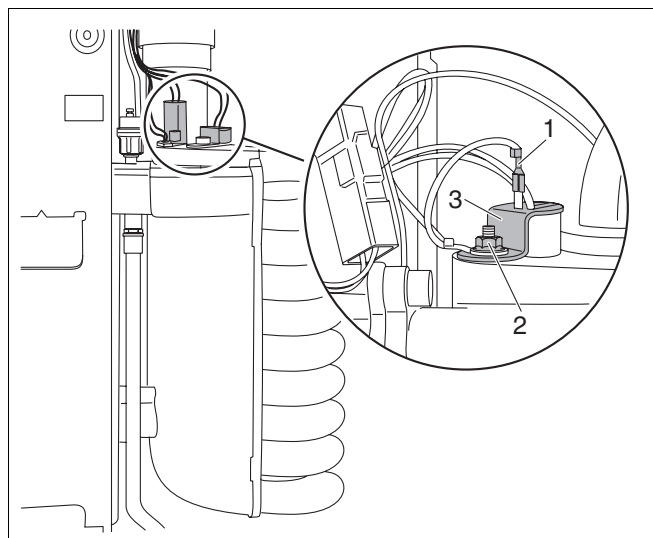

Fig. 79 Replacing the hot surface ignitor
- Remove the earth (ground) lead from the hot surface ignitor (fig. 79, item 1).
- Loosen nut on clamp used to secure earth (ground) lead (fig. 79, item 2).
- Detach retaining plate of hot surface ignitor (fig. 79, item 3) and remove hot surface ignitor.